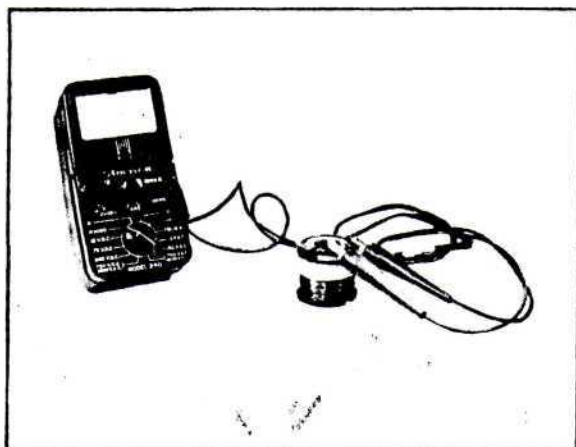

FIGURE 14
1. Using a continuity tester, connect the leads to the coil plate contacts as shown in Figure 14.